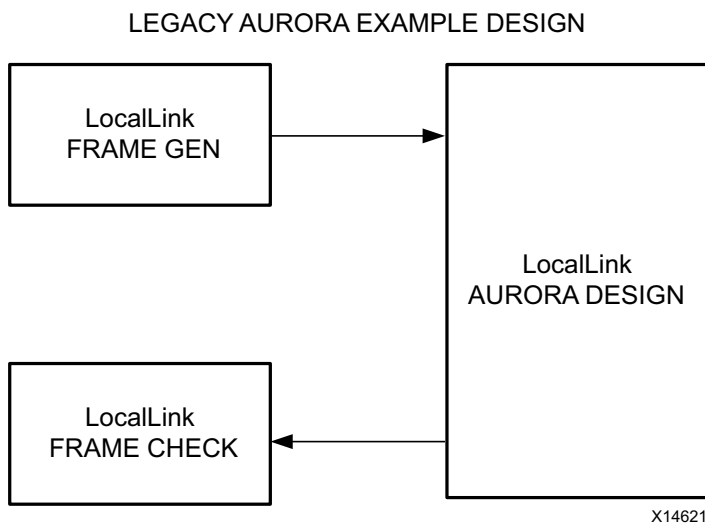
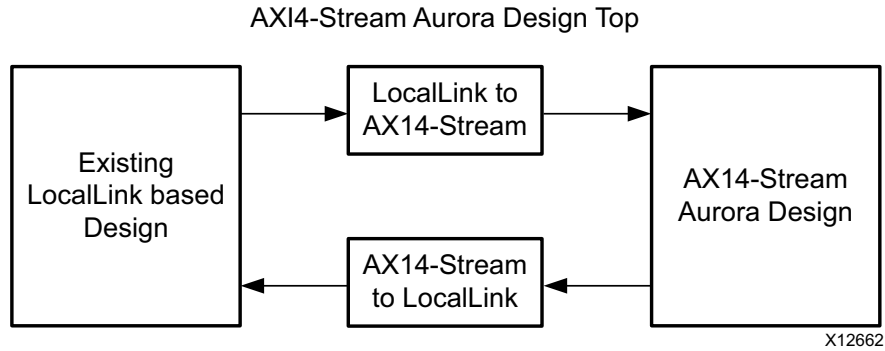

Figure B-1: Legacy Aurora 64B/66B Example Design
Figure B-2: AXI4-Stream Aurora 64B/66B Example Design
Figure B-1 shows an example Aurora 64B/66B design using the legacy LocalLink interface. Figure B-2 shows an example Aurora 64B/66B design using the AXI4-Stream interface.
2. See Figure B-2, page 118 for the emulation of a LL Aurora 64B/66B core from a AXI4-Stream Aurora 64B/66B core.
5. Connect the shim and AXI4-Stream Aurora 64B/66B design as shown in Figure B-2, page 118.